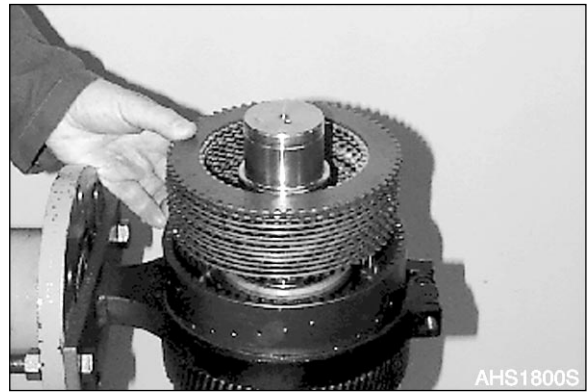
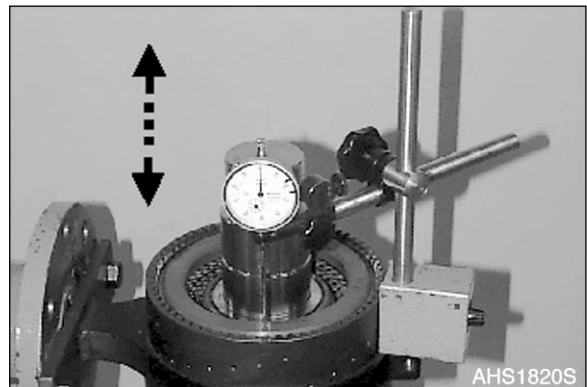

Figure 219
Figure 221
1. Check Plate clearance $KR = 2.8 - 3.0 \text{ mm}$ (0.1102 - 0.1181 in) (Figure 219 - Figure 221).